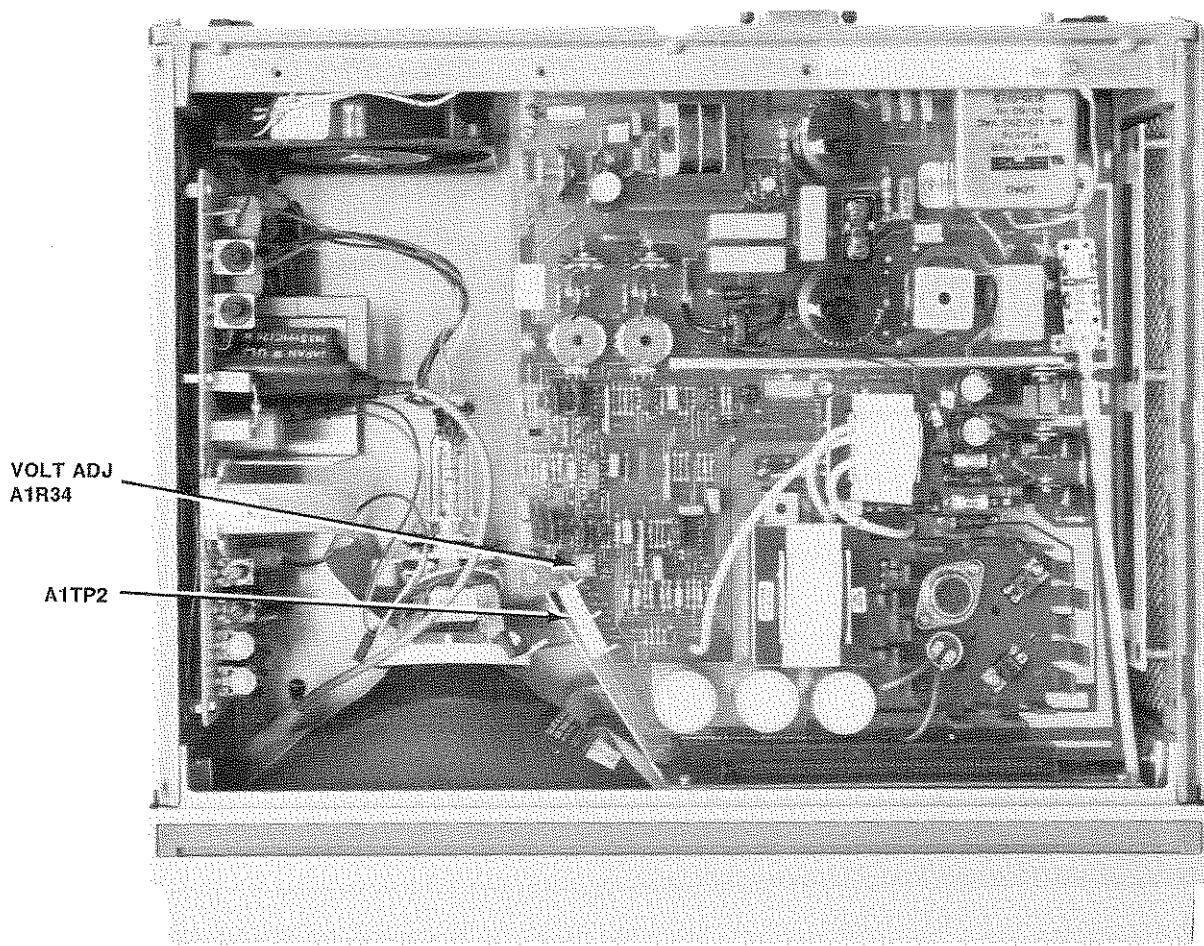

Figure 10-1. Power Supply Adjustment.
2. Connect voltmeter leads to ground and -5.2V on the LV board test connector A1TP2 (figure 10-1).
4. Adjust VOLT ADJ (A1R34) until the measured voltage reads -5.2 ± 0.1 volt (figure 10-1).